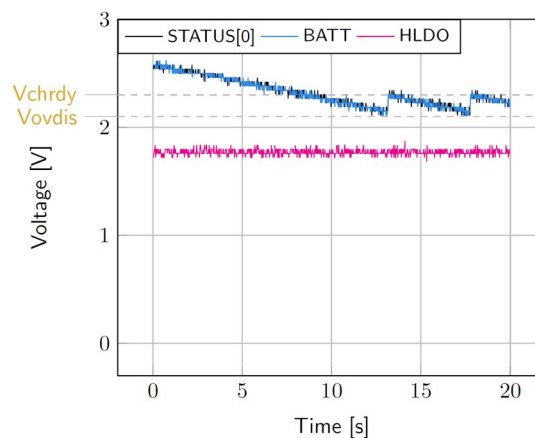

Figure 6: Switching from **SRC** to the primary battery
- **BATT**: voltage decreases as the system consumes the power accumulated in the storage element. The voltage reaches V_{OVDIS} and then rises again to V_{CHRDY} as it is recharged from the primary battery (see Figure 6).
- **STATUS[0]**: never de-asserted as the LDOs are still functional (see Figure 6).
- **HVOUT**: stable and not affected by switching on the primary battery (see Figure 6).